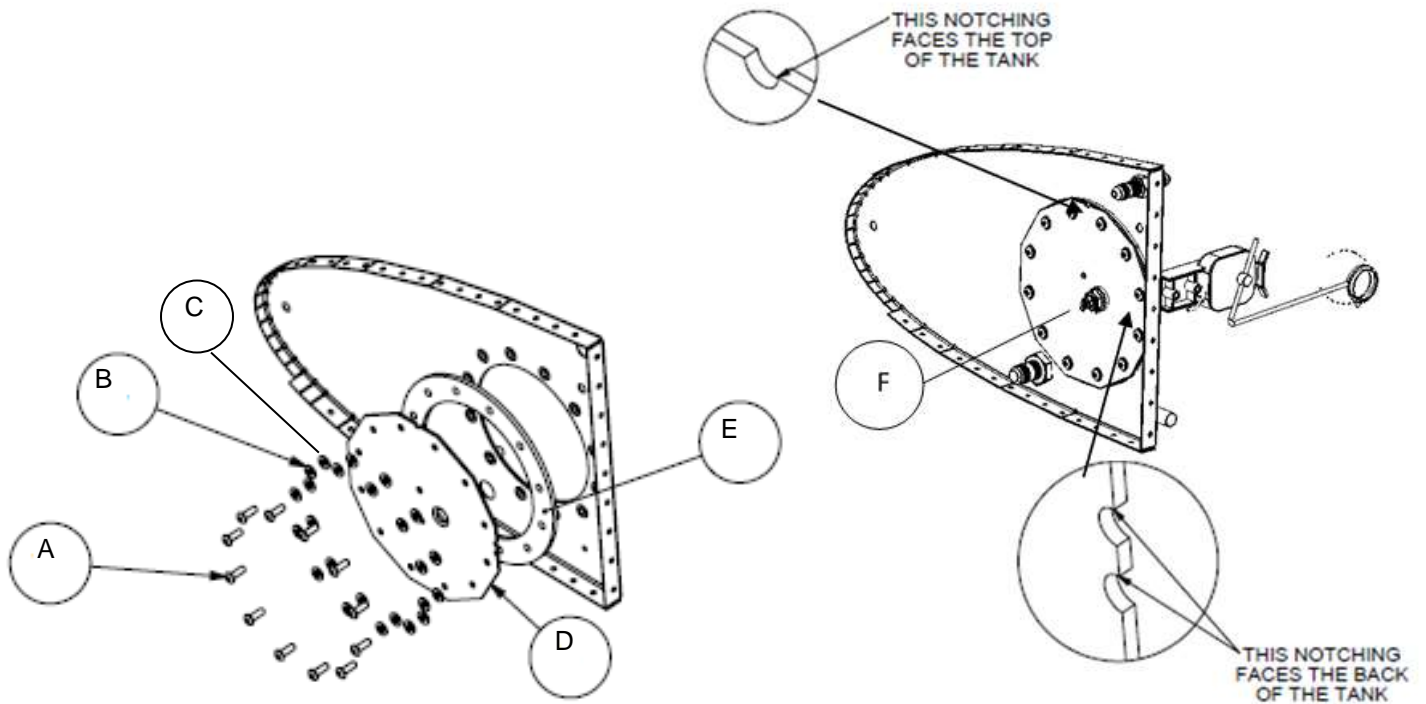

Figure 60: Fuel sender installation into fuel tank.
- Observe correct plate orientation and placement of washers (refer to Figure 60). The plate is fitted with the edge with the single notch facing the top of the wing and the edge with two notches facing the rear of the wing.
2. Undo the nut (1) retaining the signal wire to the terminal stud, cut the tie-wrap and unwind the signal wire from the bracket (2).
3. Undo the screws (3) retaining the sensor (4) to the bracket (2) and remove the sensor.
4. Mark the position of the float arm (5) where it is secured to the sensor (by screw).
5. Remove the sealant and undo the screw retaining the float arm (5) to the sensor. Retain the float arm for reassembly onto the replacement sensor.
6. The float arm stops (6) on the replacement sensor must be bent to be identical in position to that on the removed sensor (refer to Figure 60). Retain the removed sensor for reference.